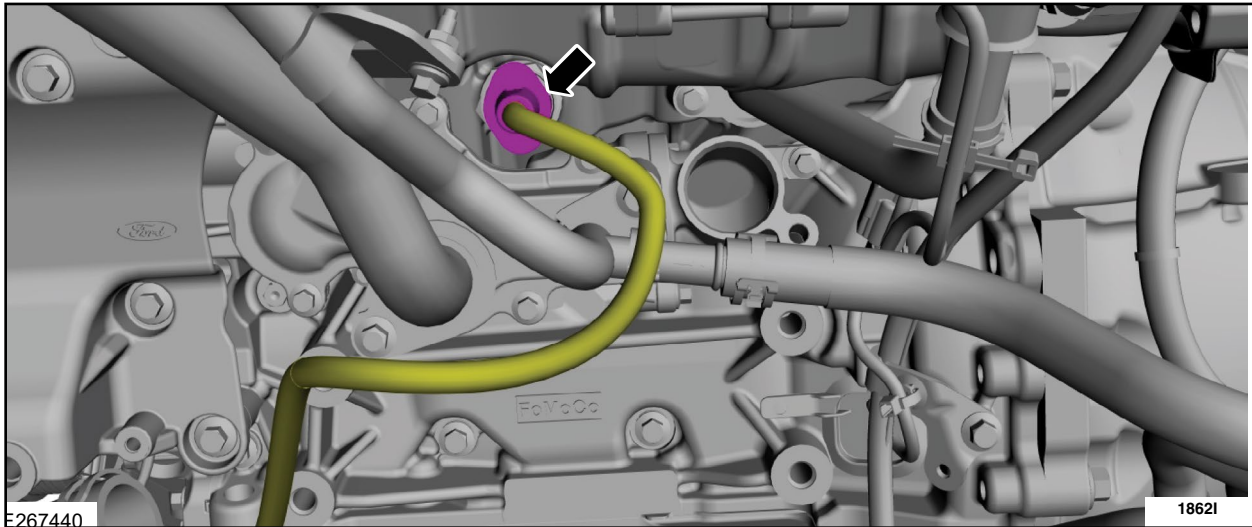

FIGURE 4
4. Disconnect the block heater electrical connector. See Figure 4.
9. Connect the *new* wire assembly to the block heater element. See Figure 4.